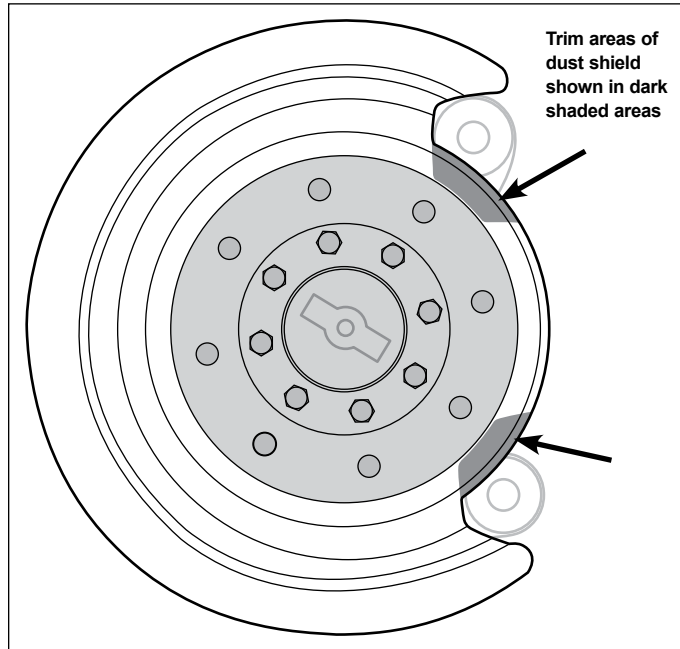

Figure 3. Dust Shield Trimming
•**NOTE:** Trimming of the dust shield is required for proper fitment of new caliper bracket. Only trim off enough material to provide adequate clearance so that the Wilwood caliper bracket does not touch the dust shield and properly attaches to OEM caliper mount bosses without any interference. See approximate areas to be trimmed in Figure 3 and Photo A at right.